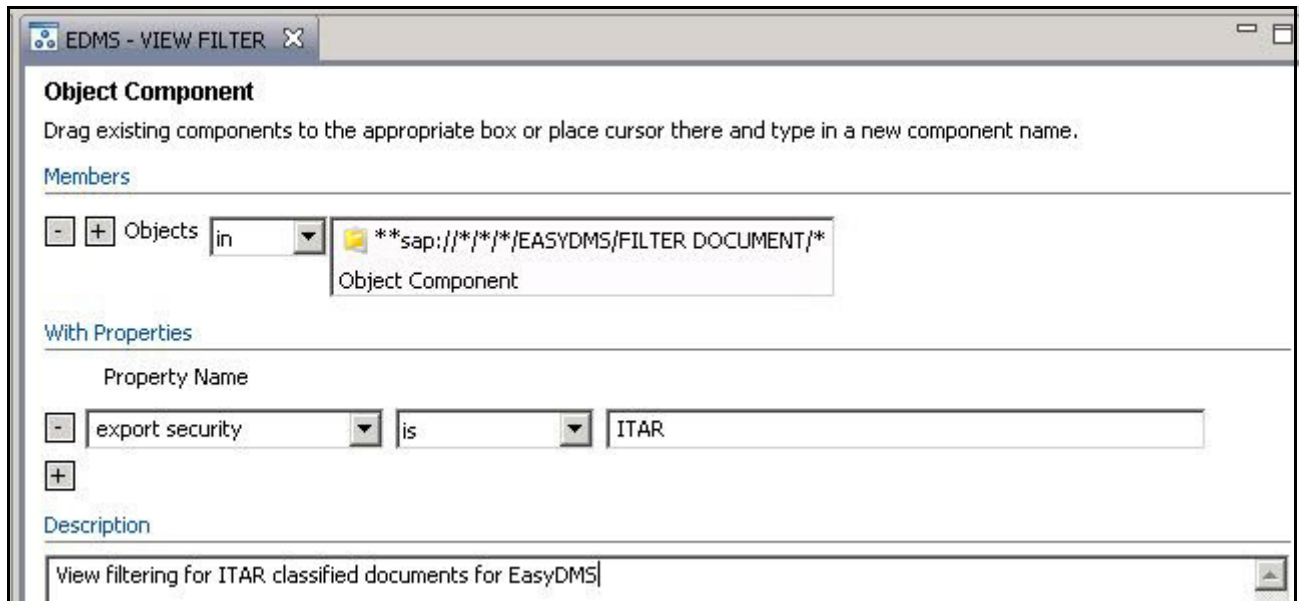

Figure 6-30: SAP Resource Component for View Filtering
- For the Resource, create an SAP component with `EASYDMS` as the SAP application and `FILTER_DOCUMENT` as the function in the resource string, as in Figure 6-30. You can also apply properties to the resource. This component applies to all documents that are classified ITAR.